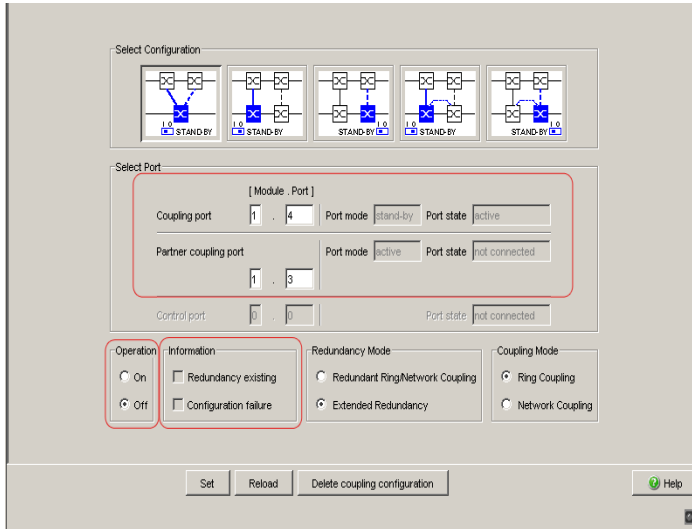

Figure 22: Selecting the port and enabling/disabling operation
- Select the partner coupling port (see figure 22), (see table 11).
- Select the coupling port (see figure 22), (see table 11).
- Activate the function in the “Operation” frame (see figure 22).
The displays in the “Select port” frame mean (see figure 22):
The displays in the “Information” frame mean (see figure 22):